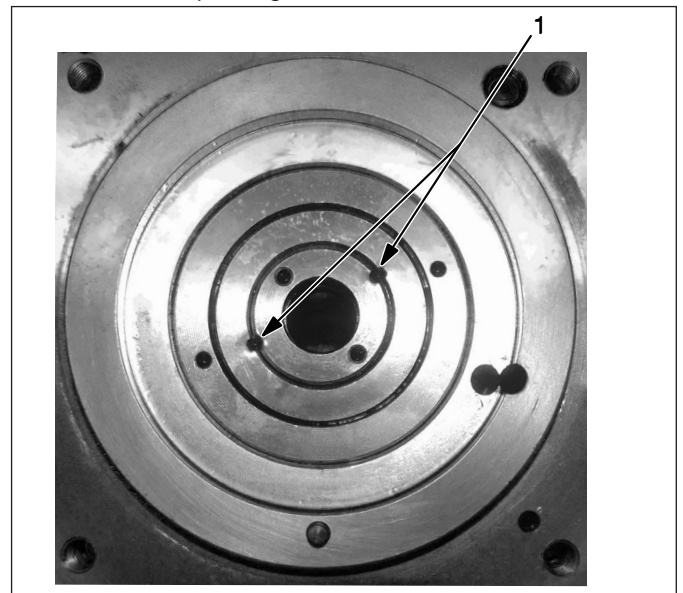

**Figure 6, End Cap Seal Removal**
1. Using a clean, lint-free rag and suitable cleaning agent, remove old grease and seal (Figure 6, Item 1) from end cap (Figure 6, Item 2).